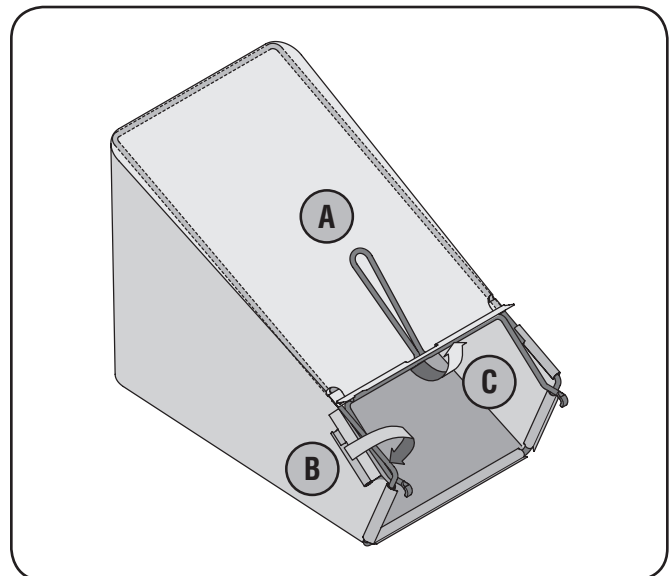

**Figure 3-4**
Install rear wheels as follows in Fig. 3-4 (wheels maybe already installed at factory, if so disregard this step):
3. Slide spring washer and wheel, with hollow side in, onto pivot arm and secure with lock nut. See Figure 3-4.